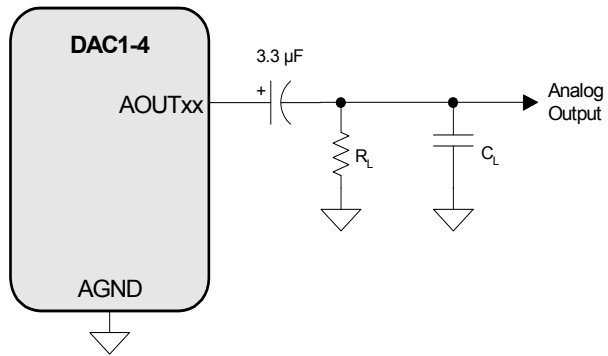

Figure 3. Output Test Circuit for Maximum Load
- Guaranteed by design. See Figure 3. R_L and C_L reflect the recommended minimum resistance and maximum capacitance required for the internal op-amp's stability and signal integrity. In this circuit topology, C_L will effectively move the dominant pole of the two-pole amp in the output stage. Increasing this value beyond the recommended 100 pF can cause the internal op-amp to become unstable. See "External Filters" on page 48 for a recommended output filter.